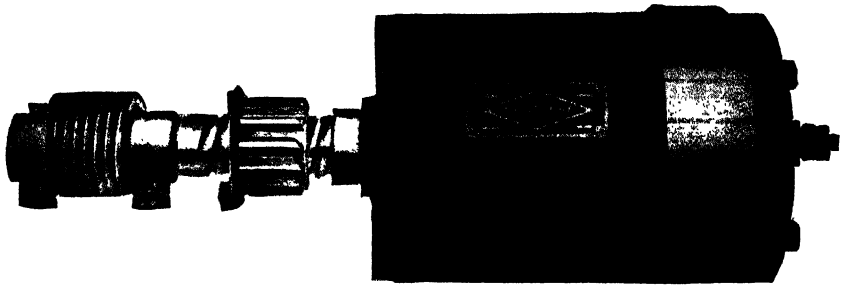

Fig. 328. Splitdorf SU Starting Motor
**Starting Motor.** The starting motor is of the series-wound type and is similar in design to the generator. It is supplied with a Bendix drive as shown in Fig. 328.